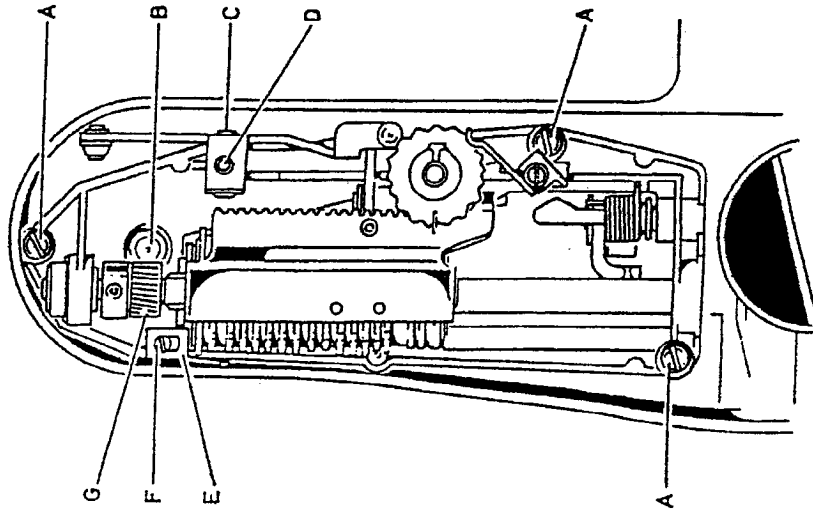

Fig. 1
Disassembly of the unit from the machine (fig. 1)
- put back in their place the three screws which fasten the automatic and zigzag device, and after eliminating the clearance between helical gear G (fig. 1) and worm screw B, tighten them strongly;
- connect the needle displacing lever to the plate of the automatic device by means of pin C (fig. 1) and tighten grub screw D again.